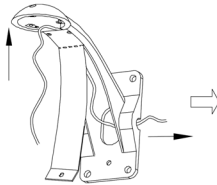

Figure 6
- 3) Take out system control wires from the bracket (Figure 6).